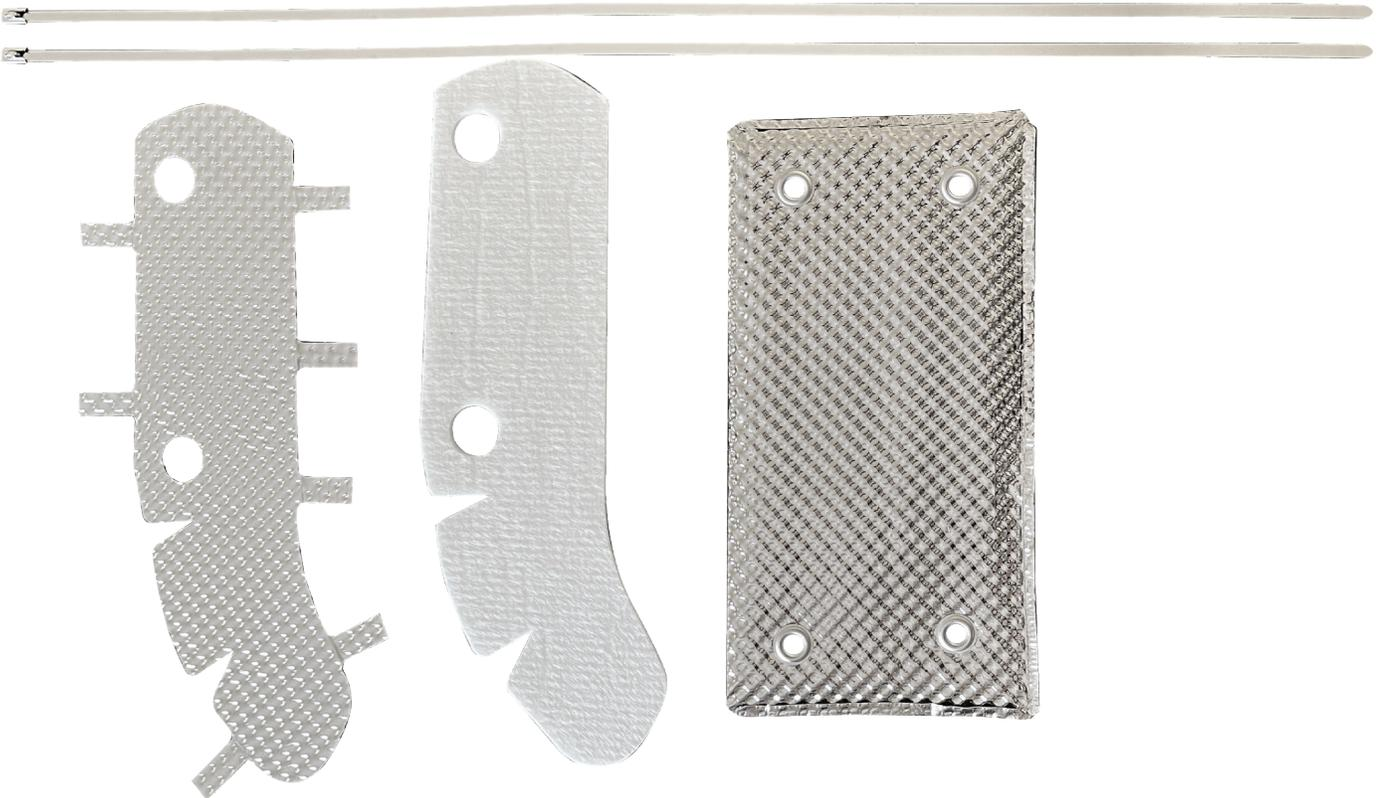

FIG. 1
STEP 2. Match up the Duraglass and dimpled aluminum pieces to the shape of the heat shield. Fig 1